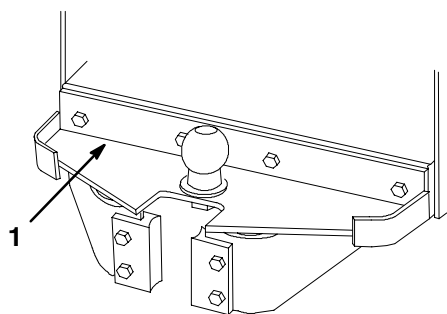

Figure 5
3. Mount hitch bracket to rear of mower frame with (4) 5/16-18 x 7/8" capscrews and locknuts. Mount each side of hitch bracket and support brackets to frame with (2) 3/8-16 x 1 - 1/4" capscrews and locknuts. Position bracket as shown in figure 5.